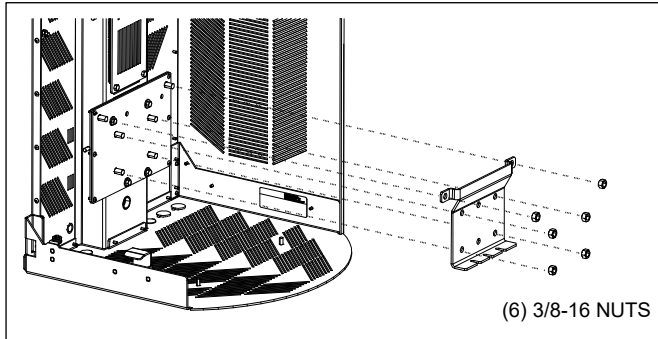

Figure 12
1. Attach the remaining hanging bracket base plate to the lower support plate. Secure using six 3/8-16 nuts (Figure 12).